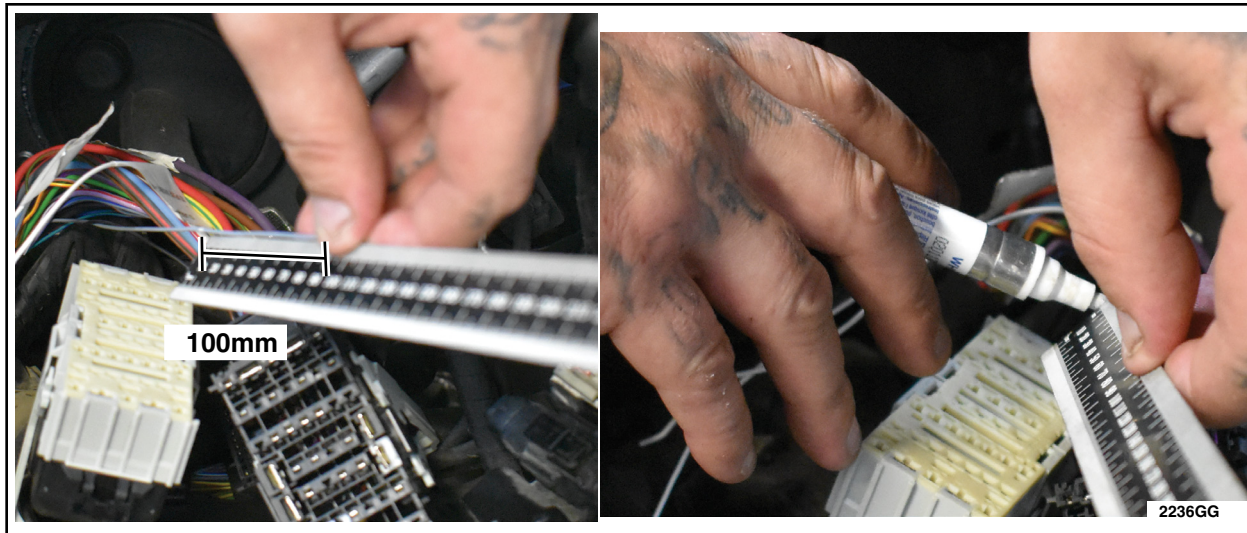

FIGURE 39
46. About 100mm down, on the identified wire, mark the wire to prepare to insert new wire from aux box wiring harness. Cut the gray wire. See Figure 39.